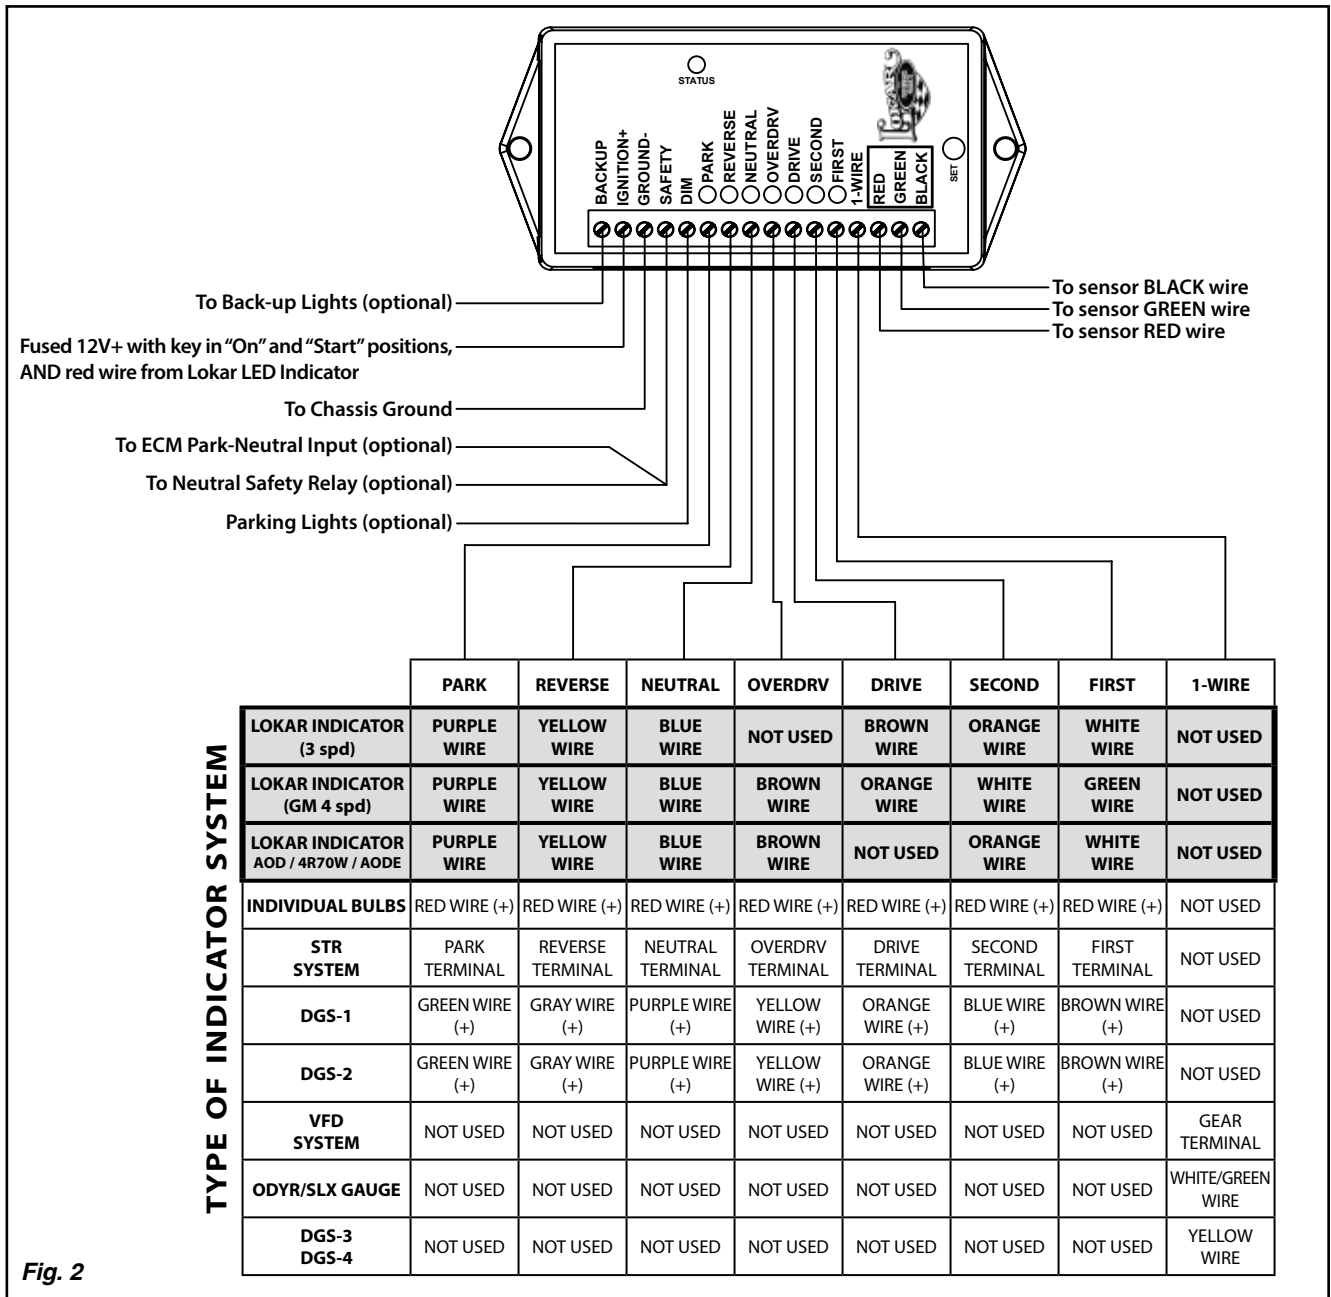

Fig. 2
Step 2: Press and hold the set switch. Fig. 2 Turn the ignition key on while holding the set switch down. Then, release the set switch.
Step 25: Following the wiring diagram in Fig. 2, connect the rest of the wires from the LED indicator to the decoder box.
- Step 27:** Following the wiring diagram in **Fig. 2**, connect the rest of the wires from the LED indicator to the decoder box.
- Step 25:** Following the wiring diagram in **Fig. 2**, connect the rest of the wires from the LED indicator to the decoder box.